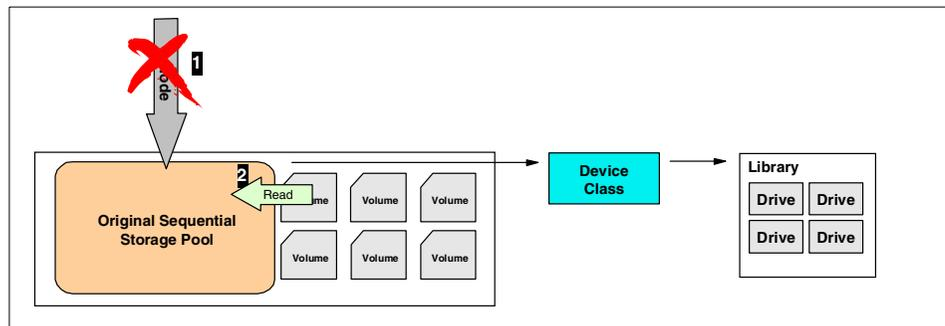

Figure 84. Preparing the server
As shown in Figure 84, the actions required include disabling the server for client sessions (1) and setting the volumes to read only (2).